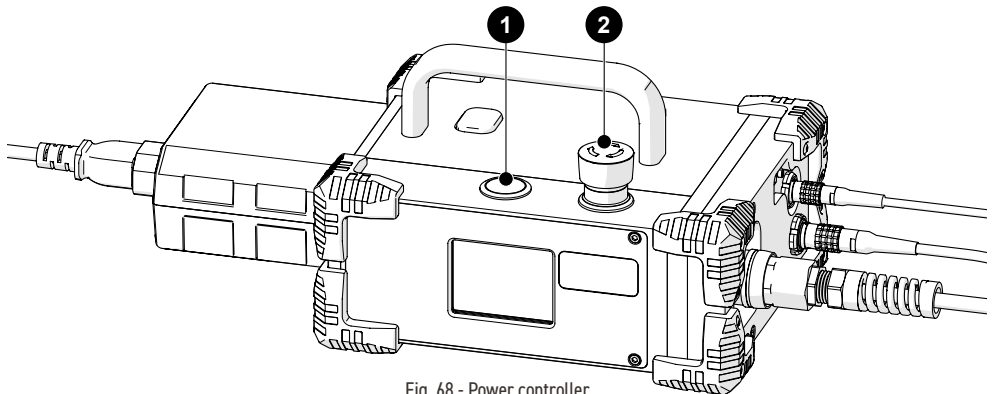

Fig. 68 - Power controller
3. Locate the **2** red off push-button on the power controller. Rotate this button clockwise to unlatch (Fig. 68).
4. The **1** power button (Fig. 68) on the power controller activates the system.